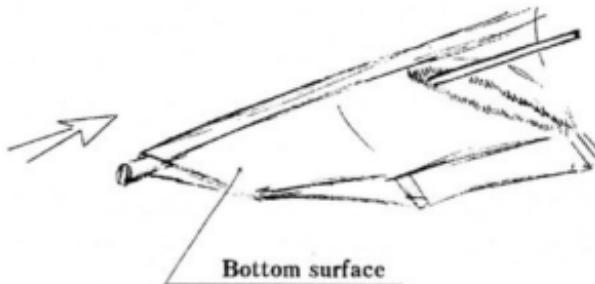

Fig. 1
- 2.1.4. While installing the leading edge tubes into the sail, place the washout tips facing forward toward the nose of the wing and along the leading edge tubes (Fig 1). Note: put washout tips outside the sail, through zipper holes. Tighten the sail along the leading edge and put the sail mount webbing into the slot in the end cap.